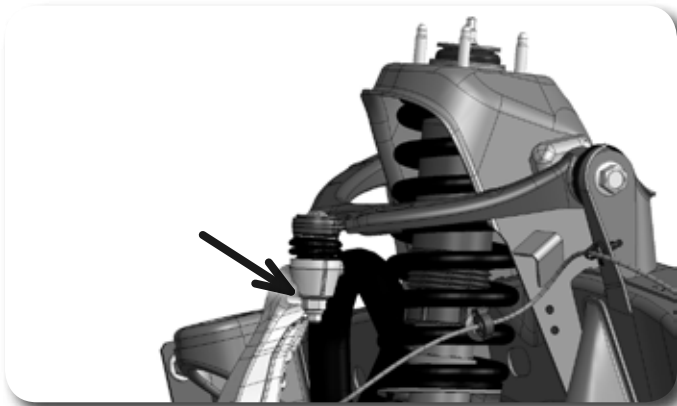

Figure 5
6. Remove the upper ball joint nut and thread it on until flush with the end of the ball joint. Gently strike the end of the ball joint to dislodge it from the knuckle, it typically does not take much force. Avoid hitting the aluminum knuckle. Disconnect the ball joint and allow the knuckle to swing rearward out of the way. Figure 5